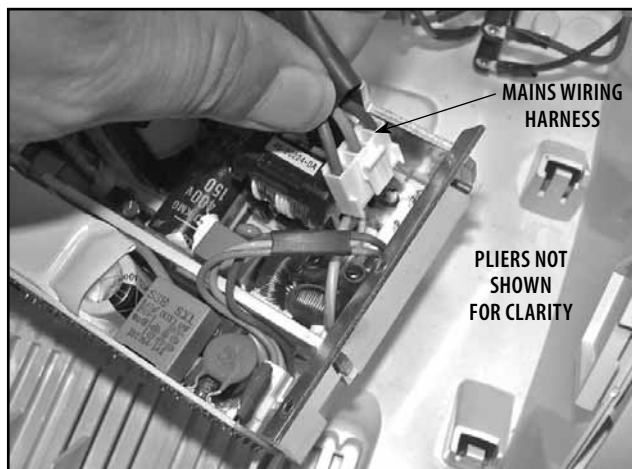

FIGURE 6.45
8. Using Insulated Needle Nose Pliers, disconnect the Mains Connector Wiring Harness from the Power Supply Assembly. See Figure 6.45.